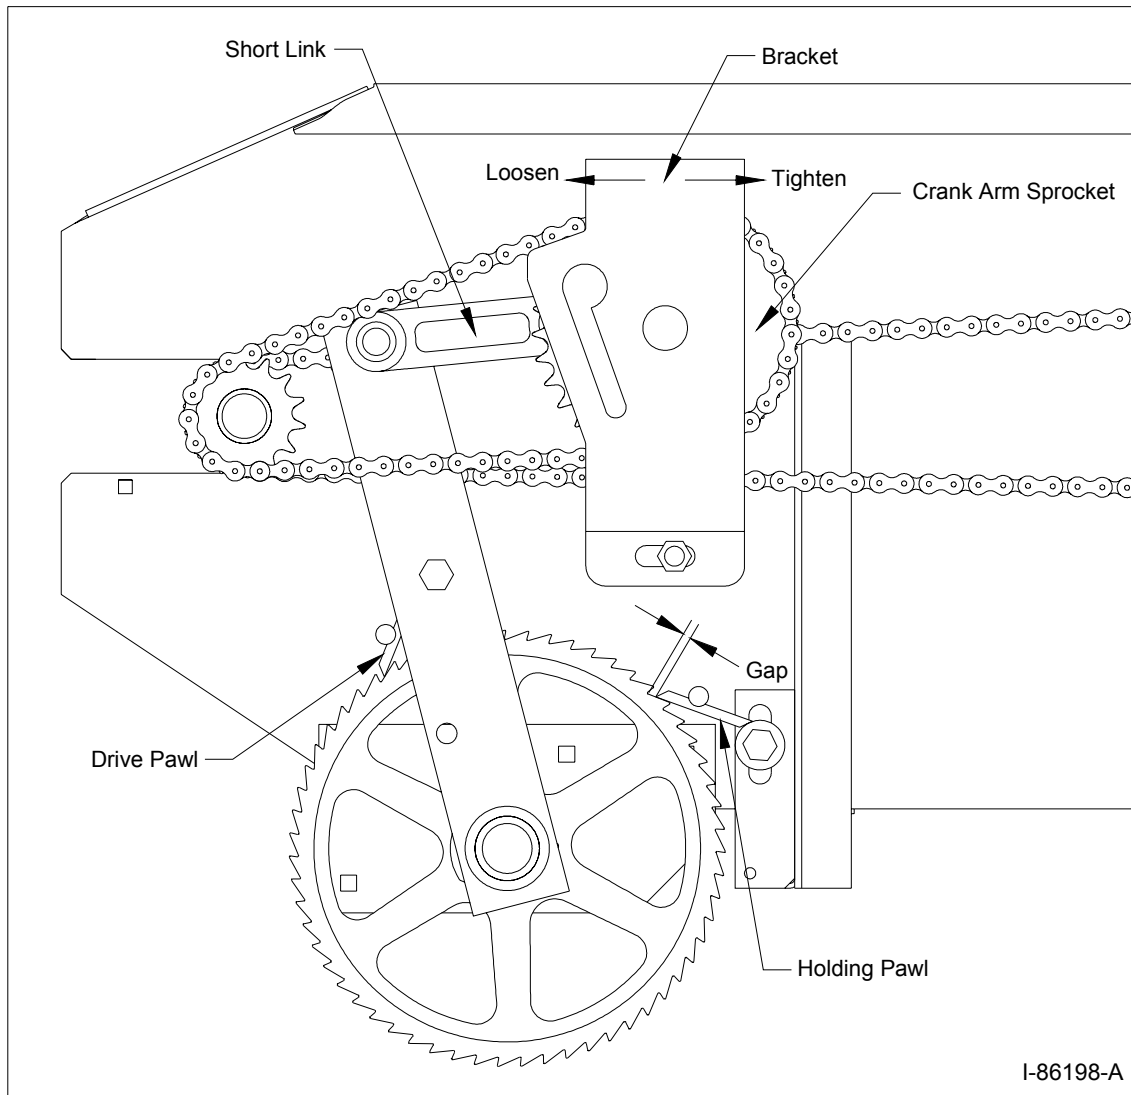

Figure 4B - Adjusting the Holding Pawl and Ratchet Drive Chain
- Apply chain lube once a month (or as needed) to the drive chains (shown in Figure 4B); use vegetable oil or a common spray lube for chains.
To Reset the Holding Pawl (refer to Figure 4B):
- (c) Adjust the holding pawl to obtain a 1/8" gap between the end of the pawl and bottom of the notch as shown in Figure 4B. Tighten the nut to secure the holding pawl.
Refer to Figure 4B on the previous page for an illustration of the ratchet drive chain and related components. The chain should be snug, but not too tight. If the chain is too tight, it may cause excessive wear on the bushings in the crank arm sprocket (resulting in premature failure).
- **To adjust the ratchet drive chain (refer to Figure 4B):** adjust the **bracket position** by loosening the two (2) 1/2" bracket bolts and sliding the bracket forward or backward (to tighten or loosen) as shown. Following adjustment of the bracket position, verify that the drive chain is set to the proper tension as specified above.